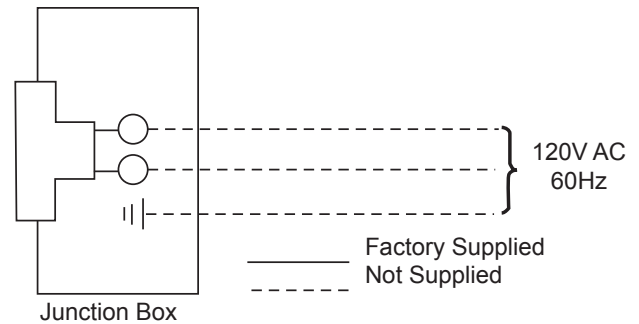

**Figure 57 -
3. The junction box cover has a factory installed "romex" style strain relief connector. After connecting the wires, route the wire leads through this connector. Refer to the wiring diagram in *Figure 57*.